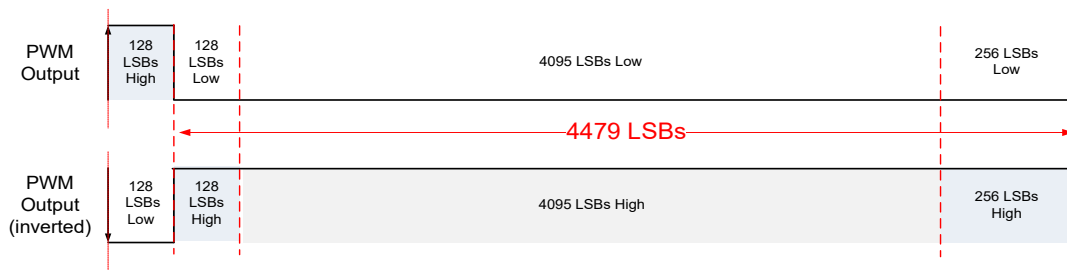
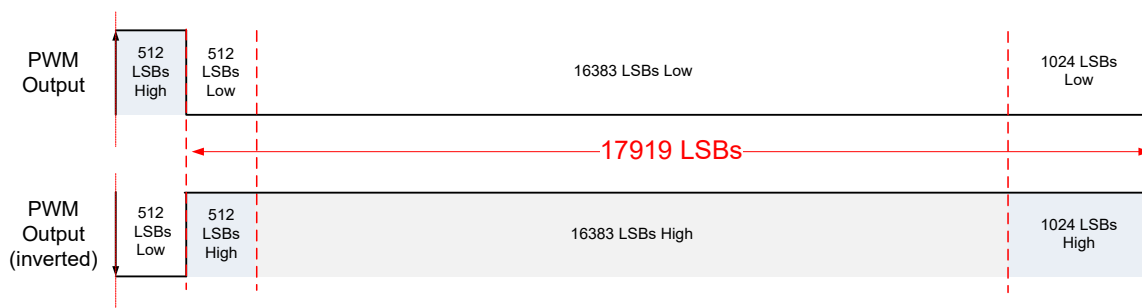

Figure 22. 12-bit PWM Signal in Diagnostics Low Mode
Figure 24. 14-bit PWM Signal in Diagnostics Low Mode
- Diagnostic low mode, see Figure 22 and Figure 24;